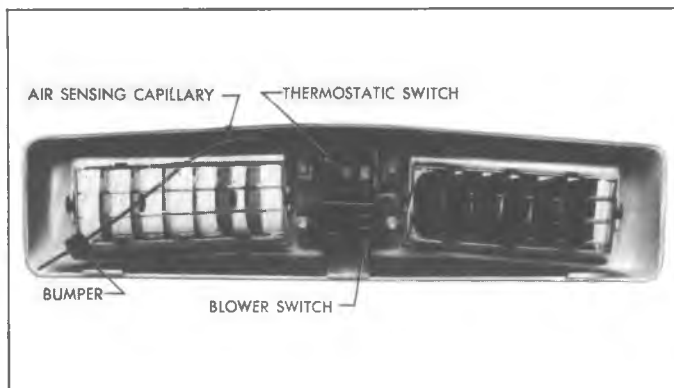

Fig. 100-Thermostatic and Blower Switches
2. Remove two screws securing either switch to the cover plate and remove appropriate switch (fig. 100).